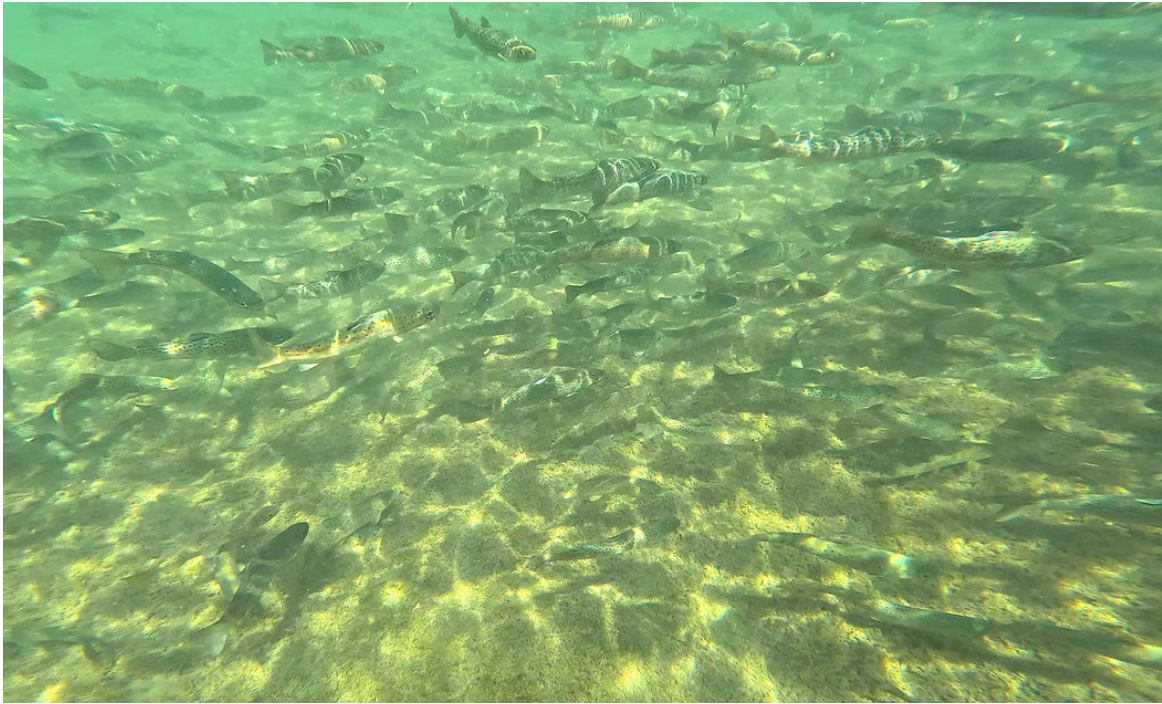

Figure 17. Picture of a school of fish captured with the Science Buddies ROV.
14. Once you have your ROV working in "real world" conditions, can you use it to collect data or information about the environment? Figure 17 shows a picture of a school of fish we were able to capture with our ROV. What can you find when you explore? There are many other things you can try with your ROV! See the Variations (#makeityourown) section for some ideas.